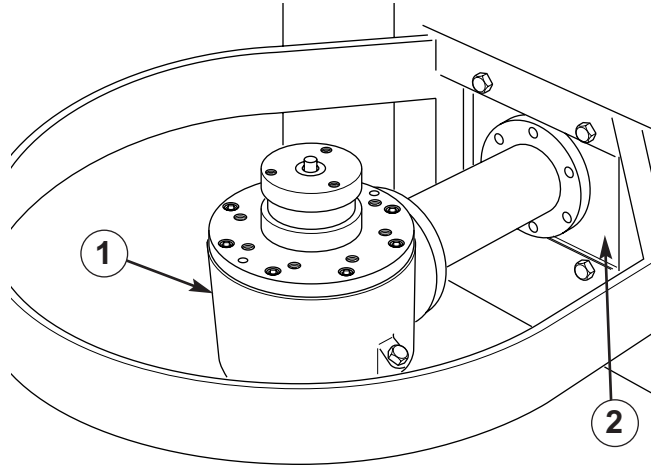

Figure 33 — Impeller drive assembly. (1) Impeller Drive Assembly, (2) Support Plate
3. **Drain oil** by removing drain plug in bottom of gear case. Remove the six (6) screws holding impeller drive housing to support plate. Slide impeller drive assembly out (Figure 33). Generally, it is not necessary to remove support plate.